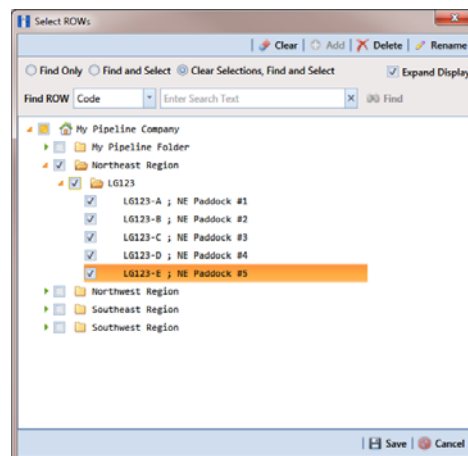

Figure 7-56. Select ROWs
- 1 Click the **Select ROWs** button  to open the *Select ROWs* window (Figure 7-56). Select the pipeline segment(s) with the facilities you want to work with, then click  **Save** to close the window.
- 1 Click the **Select ROWs** button  to open the *Select ROWs* window (Figure 7-56, page 270). Select the pipeline segment(s) with the facilities you want to work with, then click  **Save** to close the window.